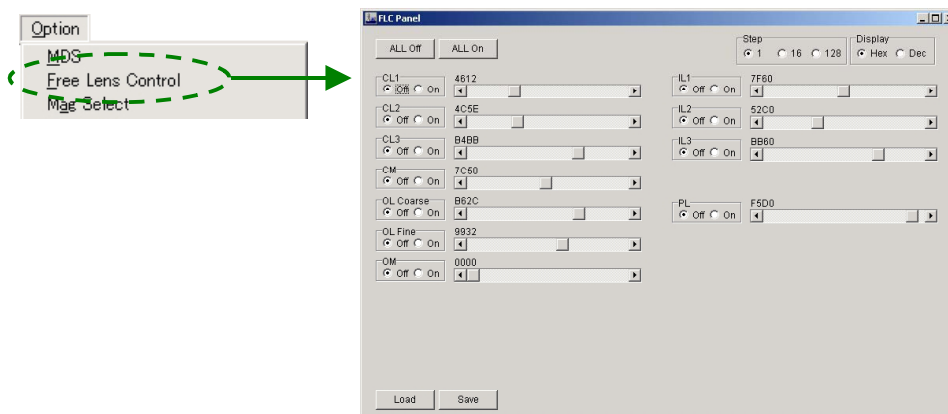

Fig. 5.59 FLC Panel screen
1. Select **Option** from the **TEM Controller** menu bar and click on **Free Lens Control** to open the **FLC Panel** window (Fig. 5.59).